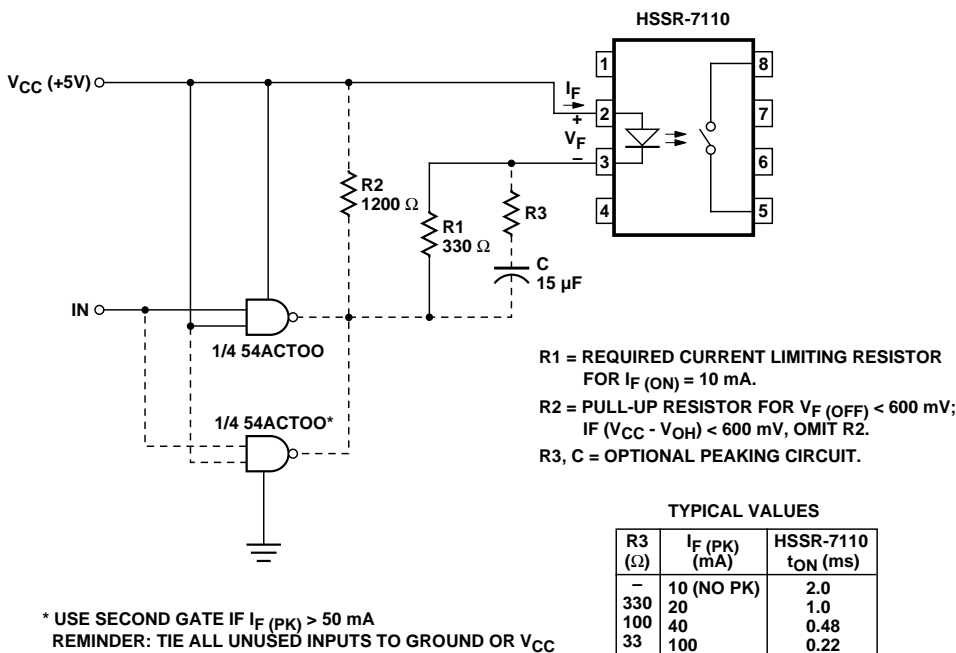

Figure 1. Recommended Input Circuit.
- For a faster turn-on time, the optional peaking circuit shown in Figure 1 may be implemented.
*Input Circuit:* The drive circuit of the electro-mechanical relay coil needs to be modified so that the average forward current driving the LED of the HSSR-7110 does not exceed 20 mA. A nominal forward drive current of 10 mA is recommended. A recommended drive circuit with 5 volt VCC and CMOS logic gates is shown in Figure 1. If higher VCC voltages are used, adjust the current limiting resistor to a nominal LED forward current of 10 mA. One important consideration to note is that when the LED is turned off, no more than 0.6 volt forward bias should be applied across the LED. Even a few microamps of current may be sufficient to turn on the HSSR-7110, although it may take a considerable time. The drive circuit should maintain at least 5 mA of LED current during the ON condition. If the LED forward current is less than the 5 mA level, it will cause the HSSR-7110 to turn on with a longer delay. In addition, the power dissipation in the output power MOSFETs increases, which, in turn, may violate the power dissipation guidelines and affect the reliability of the device.